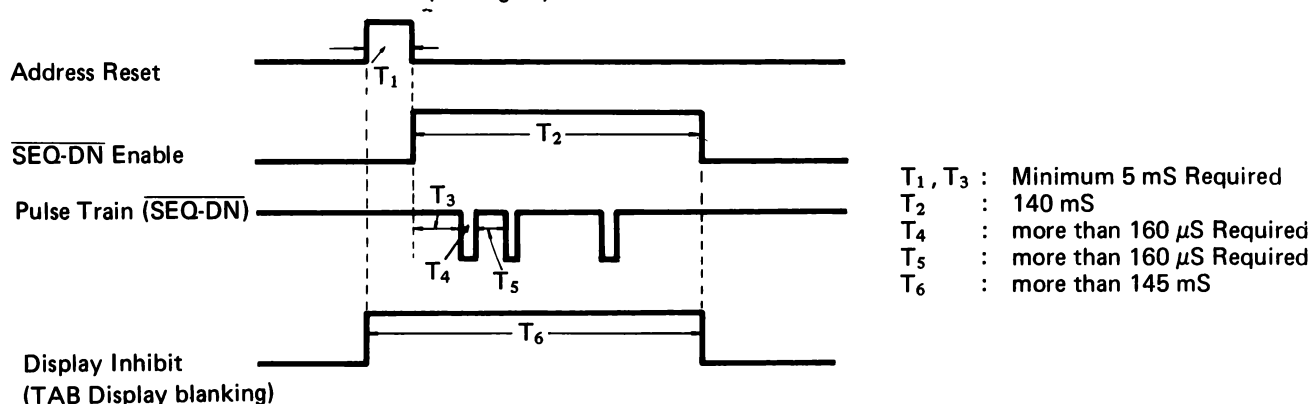

Figure 15. TIMING OF DIRECT ACCESS
This is one of key features in this system and is very useful for direct access remote control application. An address reset pulse of more than 5 mS duration enables the system. The rising edge presets the memory address register to address L(01011), and the trailing edge enables a high speed pulse train to enter into SEQ-DN input for 140 mS. During this operation, address display and SEQ-UP are inhibited. Fig.15 shows the timing and the equation (A) shows the relationship between the number of pulses and address position.